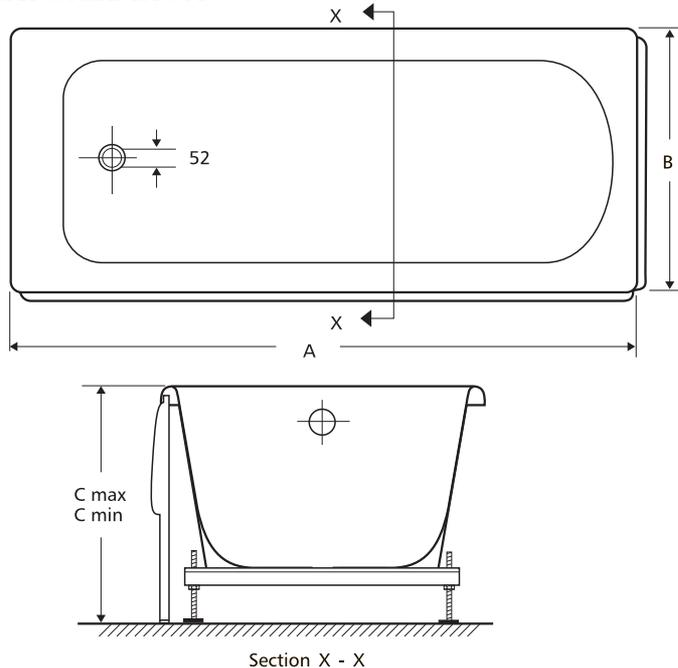

Fig. 1 (illustrated with Uniline rigid panels)
11. Front and end panel fixation (Figs. 4 & 4a) For minimum and maximum panel height settings, see Table, Fig. 1. A strip may be cut from the bottom of the panel, if required.